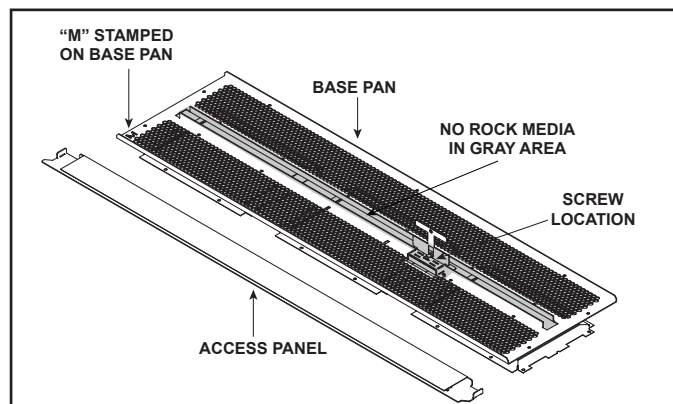

Figure 2. Location of Rock Media Placement Jig
4. Place an even layer of rock media around the base pan as shown in Figure 2 and Figure 3. Do not place rock media in the slot over the burner ports. See Figures 2 and 3. Figure 2 shows an outline of the burner tracks and the area in front of the pilot assembly. No rock media may be placed in the outlined area. Continue to place an even amount of rock media over the entire base pan. **DO NOT** install rock media in between the tracks over the entire length of the burner. This may cause lighting issues, undesirable burner flame, or delayed ignition.
5. Using the flat rock media pieces that were sorted out in Step 1, place one layer over the pilot shield. See Figure 5. Remove the stone media placement jig by removing the screw as noted in Figure 2.